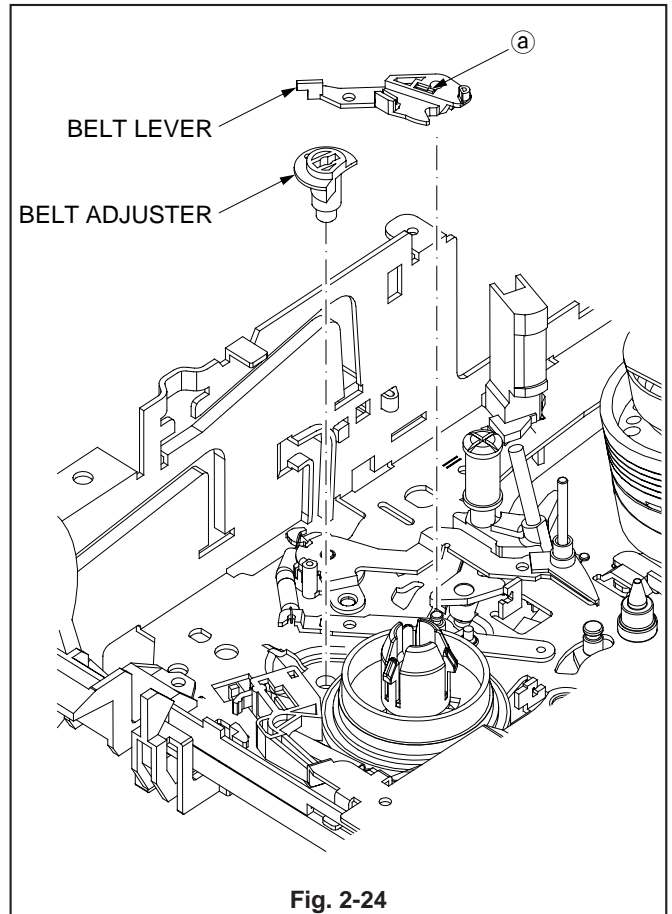

Fig. 2-24
1. Release the catch (Ⓐ) of the BELT LEVER shown in Fig. 2-24 to remove the BELT LEVER.
2. Remove the BELT ADJUSTER shown in Fig. 2-24.
1. Install the BELT ADJUSTER shown in Fig. 2-24.
2. Install the BELT LEVER shown in Fig. 2-24.